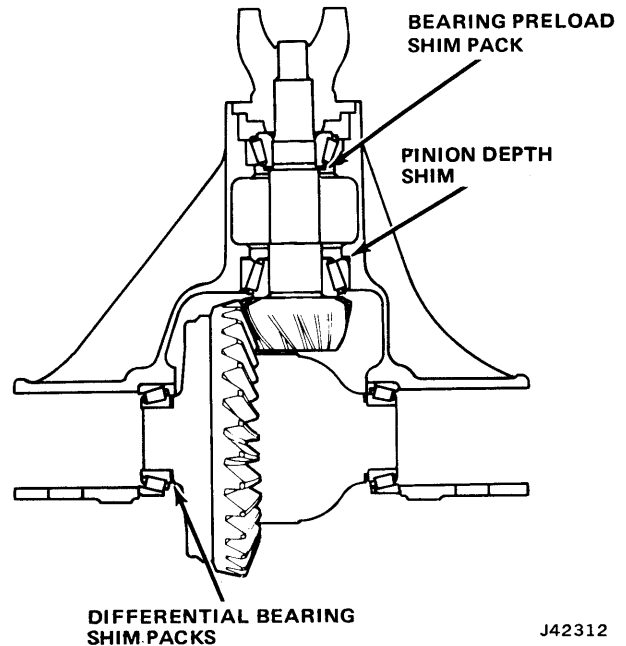

**Fig. 10-50** Installing Pinion Bearing
- (1) Install outer bearing cup using Driver J-25101.
- (2) Install inner bearing cup using Installer J-25101 on Model 30 axles, and Installer J-25157 on Model 44 and Model 60 axles to drive cup into housing.
- (3) Use Sleeve J-25218 to press inner bearing onto pinion shaft on axle Models 44 and 60. Use Sleeve J-25181 on Model 30 (fig. 10-50).
- (4) Install pinion gear in housing and install 0.065-inch shim, inner bearing, and universal joint yoke to hold pinion in position for pinion depth adjustment. Install pinion nut. Tighten nut only enough to remove end play and allow 10 to 15 inch-pounds of rotating (drag) torque.